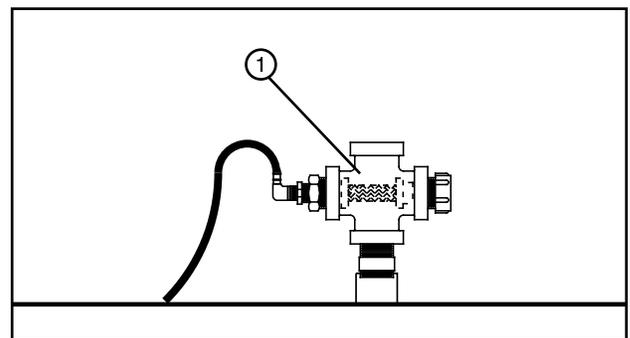

Figure 105-2 1. Cross Filter
- Clean the end gun shut off solenoid valve cross filter or optional dirty water filter. See Figures 105-2 and 105-3.